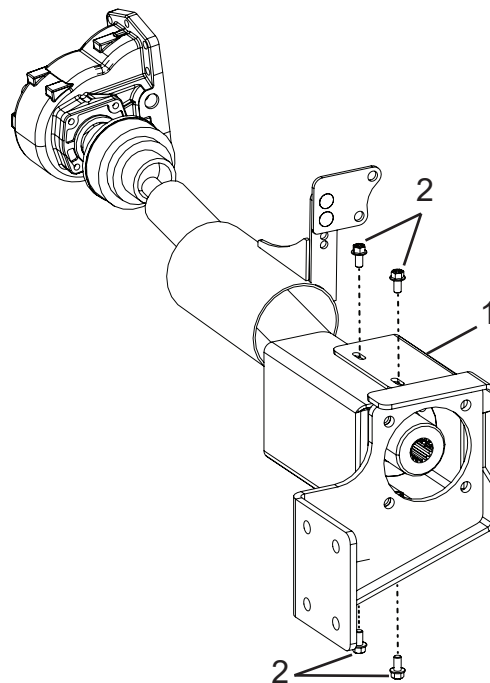

Figure 18
16. Install the existing half of the pump mount cover (Figure 18, Item 1) using the retained hardware (Figure 18, Item 2). Use a torque wrench to torque the hardware to 28 ft.-lbs.